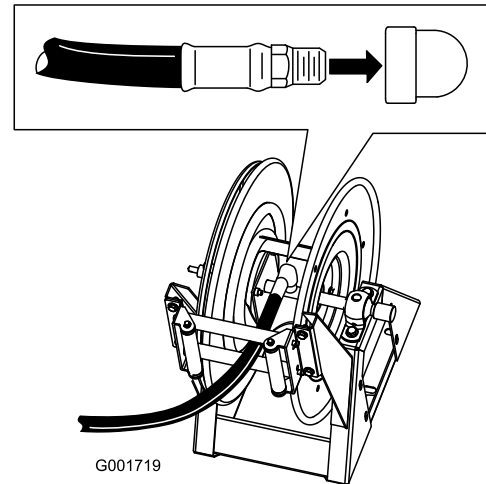

Figure 19
- Wrap Teflon tape around the threads of the hose fitting on the long hose and install the fitting into the connecting tube on the reel (Figure 19).